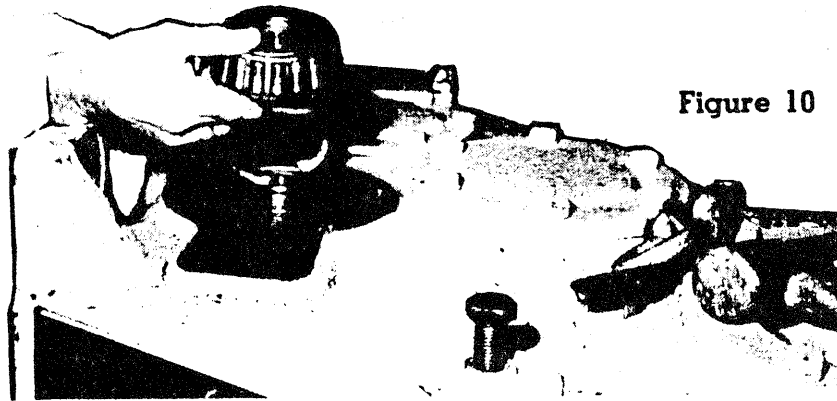

Figure 10
11. Remove the internal snap ring retaining the bearing and clutch drive gear as shown in Figure 10.